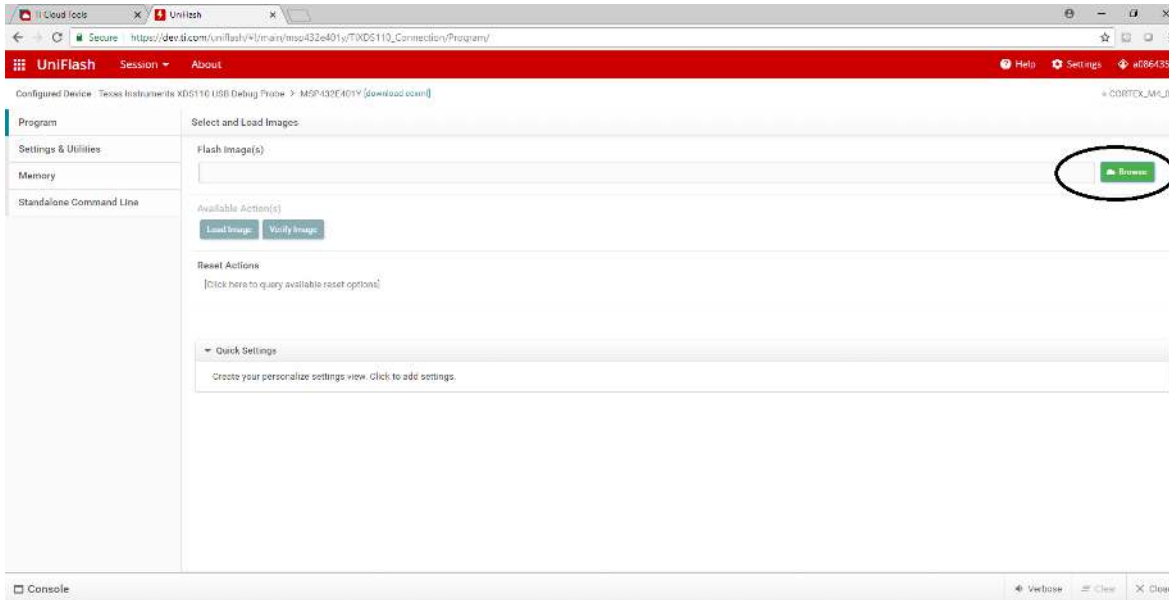

Figure 9. UniFlash: Browse to Firmware
- From the *Program* tab, *Browse* to the *Flash Image* to be installed, as shown in Figure 9. The flash binary file is found under the *Program Files (x86)\Texas Instruments\ADS1219\firmware* folder.